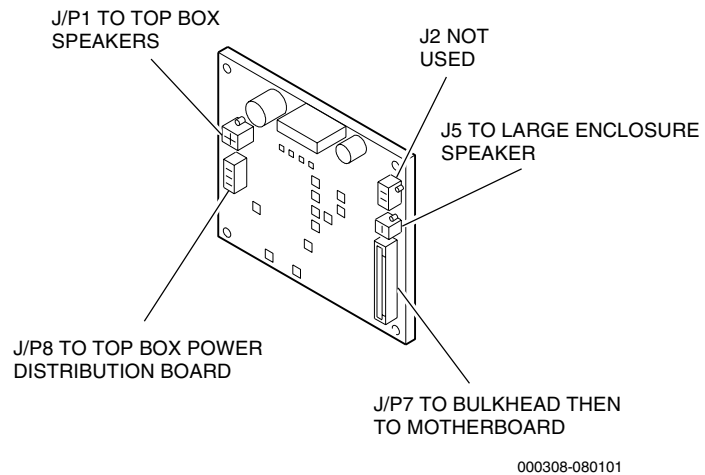

Figure 14-6. Amplifier Board Connector Locations
2. See Figure 14-6 and reconnect each harness to the correct amplifier board connector.